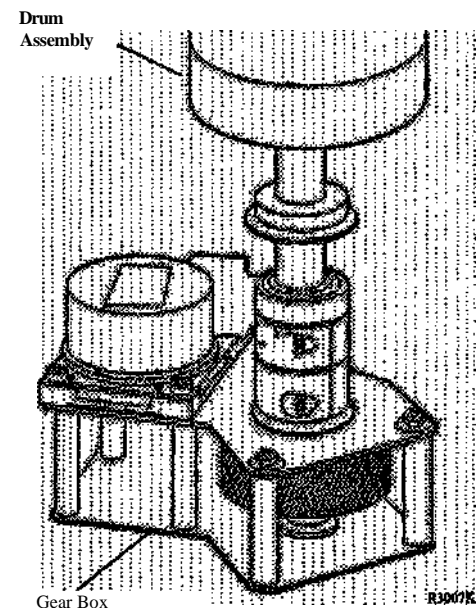

Figure 5. Removing the Drum Assembly
9. (Figure 5): Carefully remove the Drum Assembly from the Printer and place it, Gear Box down, in a safe place on the floor.